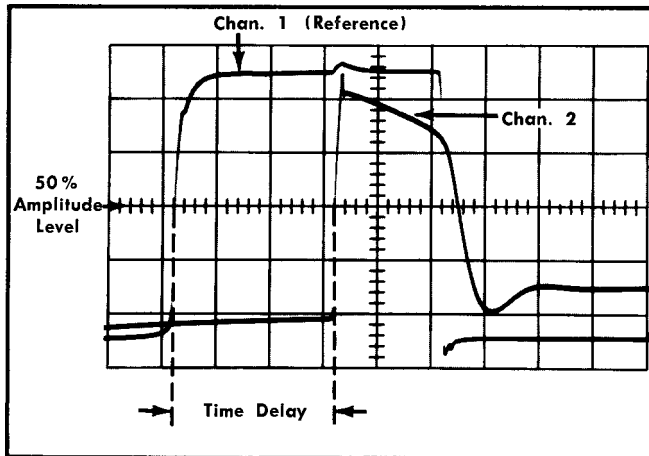

Fig. 3-3. Measuring time delay between pulse waveforms.
9. Measure the horizontal distance between the reference waveform and the Channel 2 waveform (see Fig. 3-3).
For example, assume that the Time/Cm switch setting is $2 \mu\text{sec}$, the Magnifier is set for 5X magnification, and there is a horizontal distance of 3 cm (as shown in Fig. 3-3) between the leading edge of the reference waveform and the leading edge of the waveform displayed by Channel 2. Then substitute these values in the preceding formula: